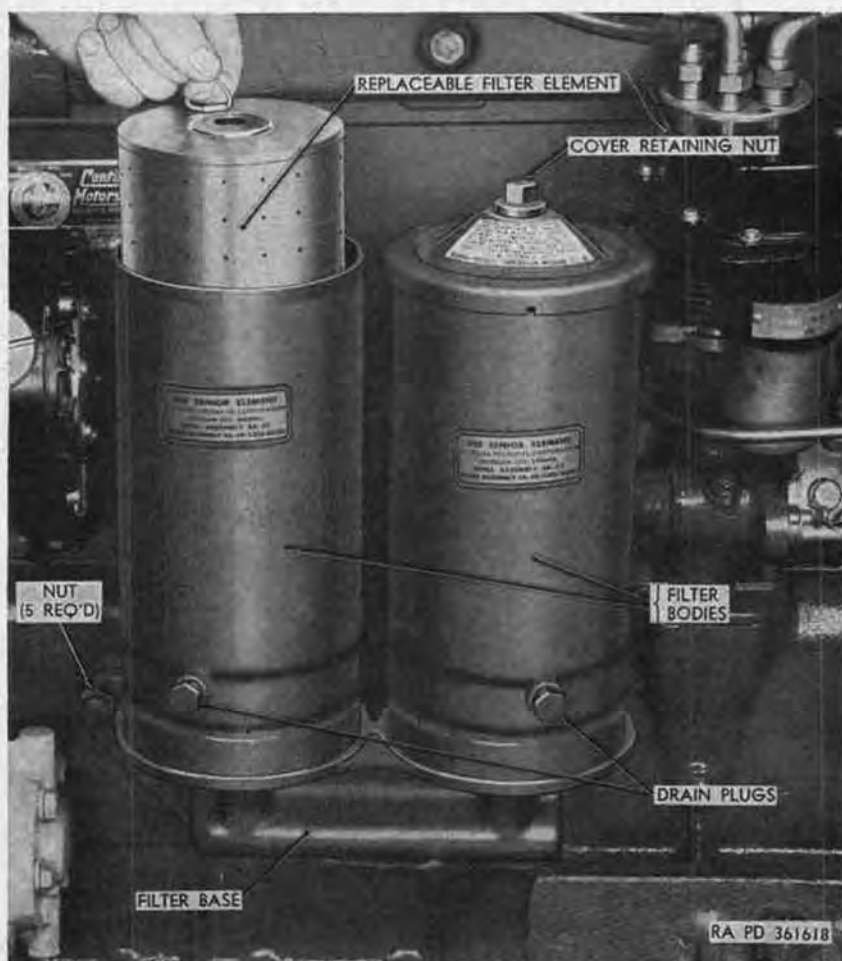

Figure 129. Replacing oil filter elements.
a. *Oil Filter Element Replacement* (fig. 129).
- (1) Remove drain plugs from sides of filter bodies, and drain oil and accumulated sludge from filters.
- (2) Loosen filter cover retaining nuts, remove covers and springs, and lift elements from filter bodies and discard.
- (3) Clean inside of filter bodies and covers with dry-cleaning solvent or volatile mineral spirits.
- (4) Install drain plugs and new filter elements on cover retaining studs.
- (5) Position cover springs on top of filter elements, position filter body covers over retaining studs, and press down on covers to compress springs and install retaining nuts on studs. Tighten nuts.
- (6) Start engine and run until normal operating temperature (160° to 180° F.) is reached. Examine filters thoroughly for oil leaks.
b. Removal. Remove five nuts and lockwashers at filter base (fig. 129) and slide filter assembly off mounting studs. Remove and discard filter mounting gasket.
- (1) Thoroughly clean gasket surfaces on crankcase and filter base, and install new gasket on oil filter mounting studs at lower left side of crankcase.
- (2) Position oil filter assembly on mounting studs and install five lockwashers and nuts. Tighten nuts.
- (3) Start engine and run until normal operating temperature (160° to 180° F.) is reached. Examine entire oil filter assembly for oil leaks.